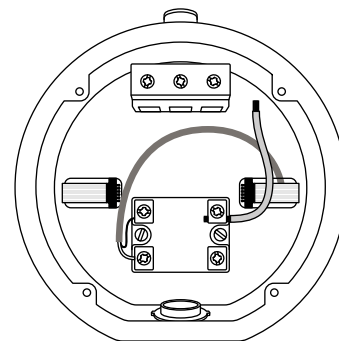

Figure 5.1
4) Your MODEL 1X will have a short length of wire already installed into one of the controller terminals. The other end is **INTENTIONALLY** disconnected. Insert an appropriate strain relief fitting into the electrical opening on the MODEL 1X as shown in Figure 5.1.